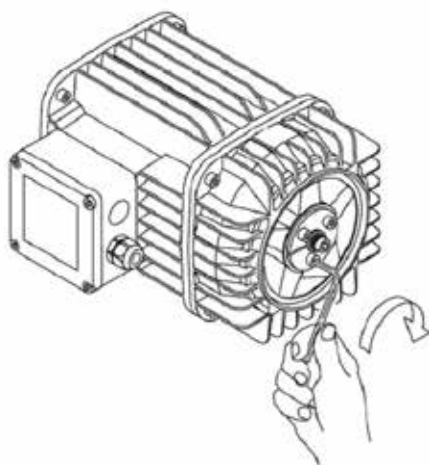

fig.129
7. Put back the three screws in the original place on the ring screwing them up again on the block. (fig.129)